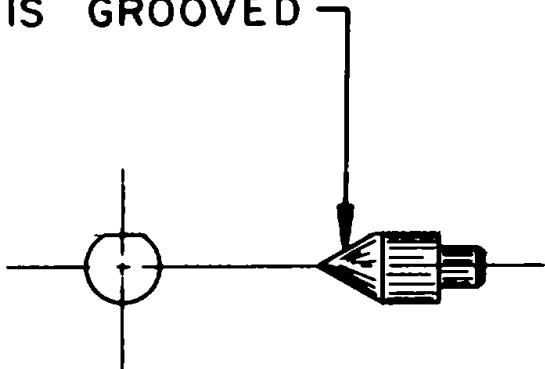

Figure 228.
C-3 Inspect high pressure relief valve pilot (13) Under normal usage, a seating pattern will burnish on face of pilot (13) If seating pattern can be felt or If the pilot is damaged In any way, It must be replaced See Fig 228.